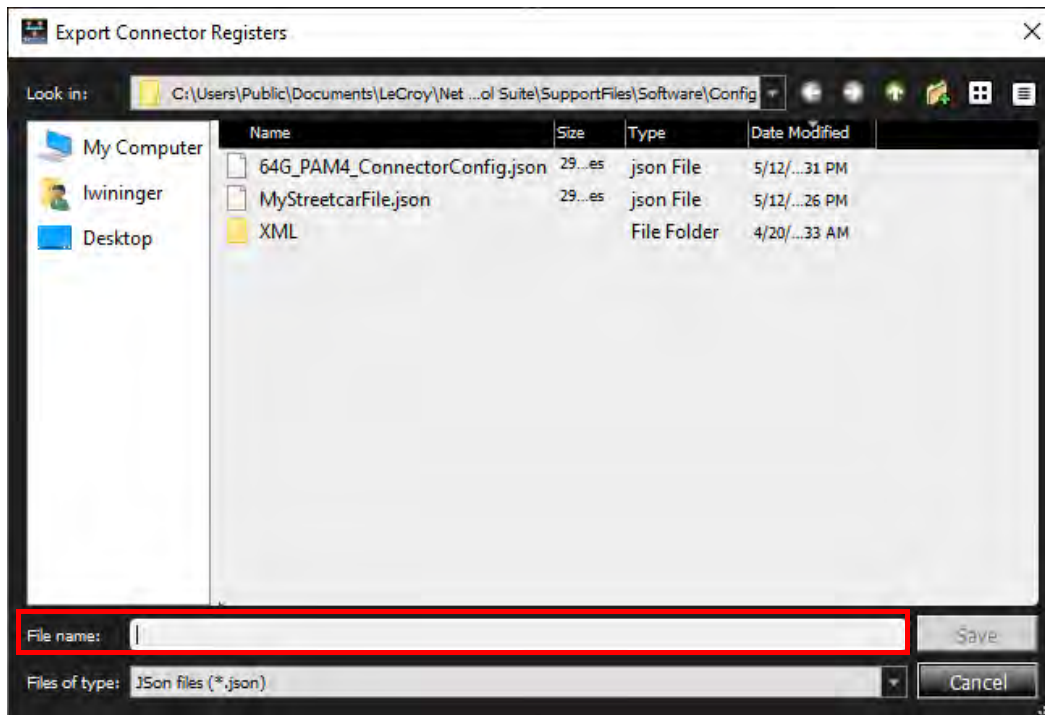

Figure 4.47: Export Connector Registers Window
- a. Highlight a Register and click **Export**. The Export Connector Registers window appears (Figure 4.47).